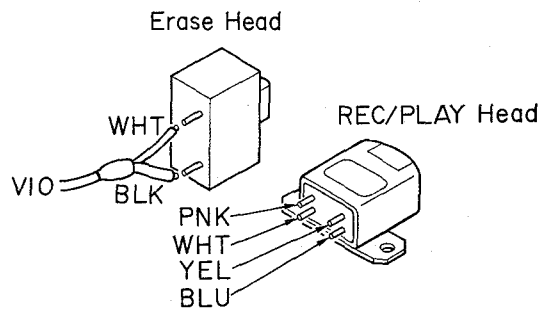

Fig. 4-7 Head Wiring Diagram
1. Unsolder each lead wire from the terminal pins of the head to facilitate replacement. To resolder each head wire to the newly replaced head, refer to Fig. 4-7.
2. Remove two screws (E) and remove the REC/PLAY Head from the Head Base Plate.
3. Remove the Erase Head Bracket installing the Erase Head by taking off two screws (D).
4. Take off two screws (C) then separate the Erase Head from the Erase Head Bracket.